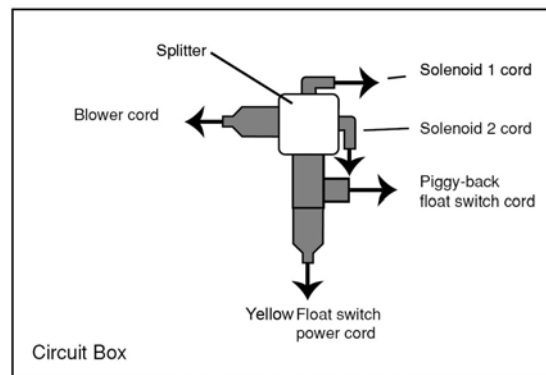

Figure 2 – Circuit Box Wiring Connections
10. Open the white circuit box on top of the unit. See Fig. 3 for location of circuit box. (To open the top of the box, unscrew each of 4 screws and lift cover off.) Plug in the following cords as shown in Fig. 2.